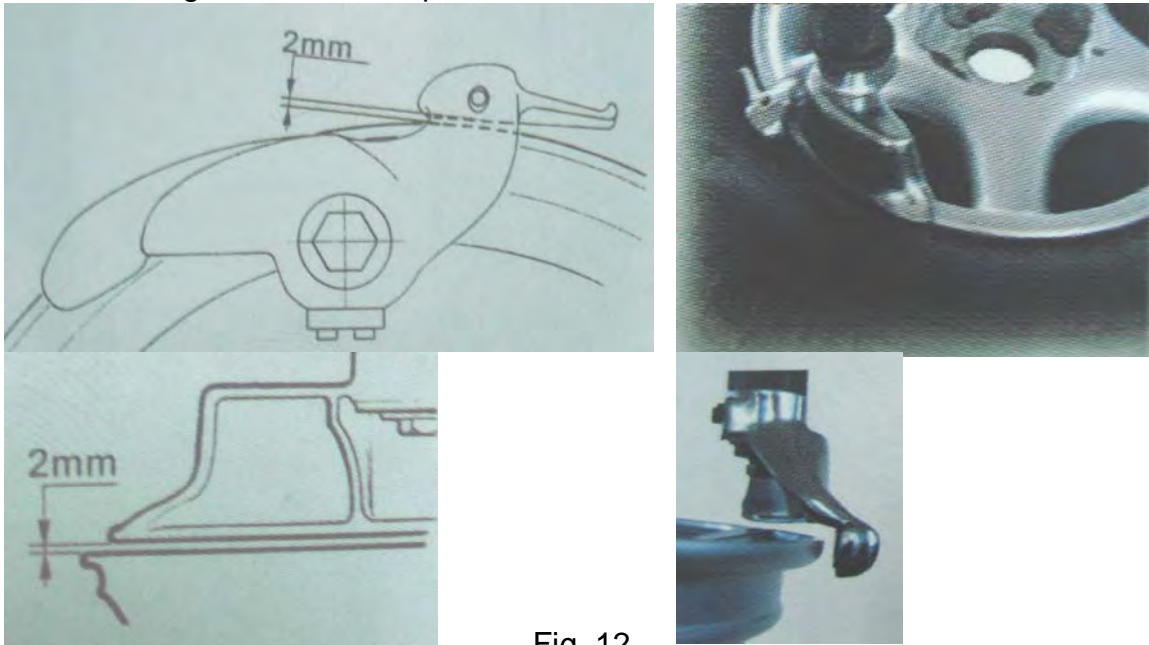

Fig. 12
4. Adjust the angle of the mounting head by hand as shown in Fig. 12.